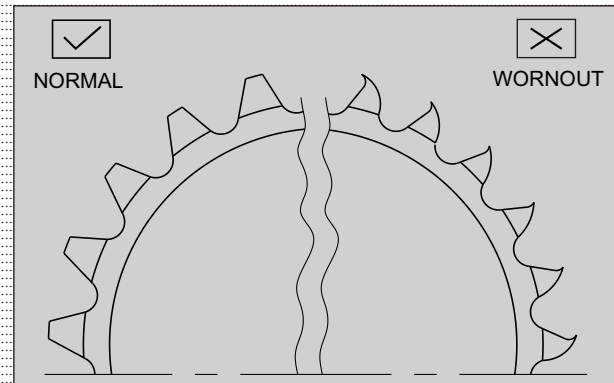

Fig. 6.85
- Inspect sprocket rear teeth for wear. If they are worn-out as illustrated (Fig. 6.85), replace the sprocket with a new one.